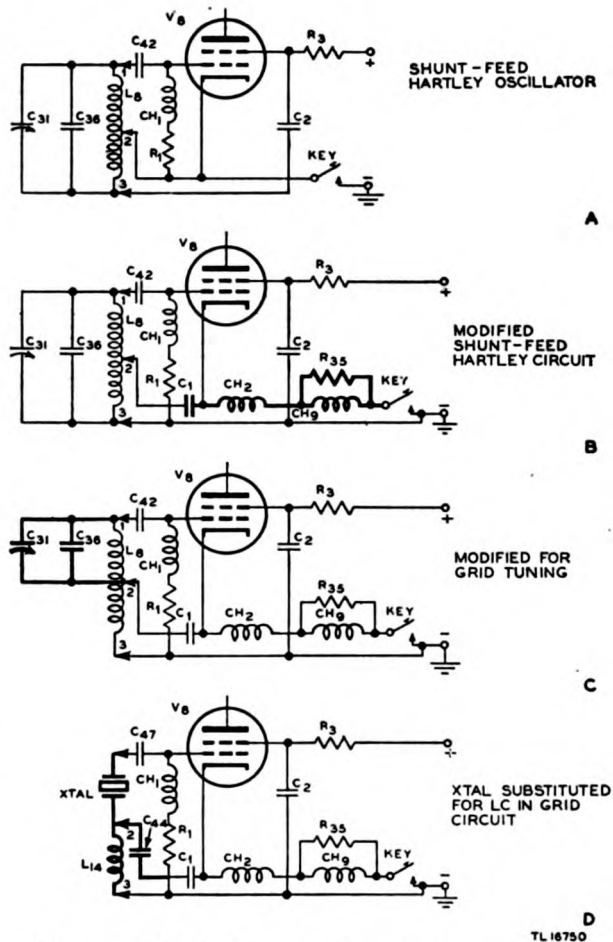

Figure 54. Equivalent circuits of master oscillator.
a. HARTLEY OSCILLATOR. For purposes of comparison, each part in the Hartley circuit (fig. 54(A)) is given the part number of the corresponding part used in Radio Transmitter BC-610-E. The functioning of the parts in the shunt-feed Hartley oscillator (fig. 54(A)) is as follows:
(1) The screen grid of tube V_8 (Tube JAN-6V6 (VT-107)) acts as the anode (plate) of a triode oscillator for which the control grid and cathode form the other two triode elements.
(2) Inductor L_8 is connected so that the turns between 1 and 2 are between the grid and cathode,
(8) Before the key is closed, the bias is zero. When the key is closed, d-c supply voltage is applied between the oscillator anode and cathode. This change of plate voltage causes a flow of energy from the anode through capacitor C_2 and the plate section (2-3) of coil L_8 to the cathode. This current in the plate section of L_8 induces a voltage across both the plate and the grid section (1-2) of L_8 . The voltage induced across L_8 charges capacitor C_{31} and C_{36} , and the resonant circuit starts oscillating. The oscillating current in L_8 causes an r-f voltage across both sections of the coil. The voltage across the grid section (1-2) is coupled through the grid capacitor to the grid, and this voltage is the grid excitation voltage. The excitation voltage is an r-f voltage at the resonant frequency of L_8 , C_{31} , and C_{32} . As the excitation voltage varies the grid to cathode voltage, corresponding variations of anode voltage occur and additional energy is fed back through C_2 to the plate section of L_8 in the resonant circuit. The energy thus fed back is sufficient to make up for the losses in the resonant circuit, so that its oscillations continue. As the grid excitation voltage swings the grid positive, capacitor C_{42} charges to a voltage nearly equal to the positive peak of the excitation voltage. The voltage of C_{42} acts as a bias voltage. Grid leak R_1 prevents C_{42} from discharging rapidly when the excitation voltage is lower than the grid capacitor voltage. In other words, the grid capacitor and the grid leak work together to develop the bias voltage for the oscillator stage.
b. MODIFIED HARTLEY CIRCUIT IN MASTER OSCILLATOR. The modified Hartley circuit of Tuning Unit TU-47 (fig. 54(B)) operates the same as the ordinary Hartley circuit, except for the following circuit changes:
(1) Chokes CH_2 and CH_9 are inserted between the cathode of V_8 and the key.
(2) R_{35} is across CH_9 and acts as a parasitic suppressor.
(3) Capacitor C_1 is between the cathode of V_8 and point 2, the junction of the plate and grid sections of L_8 .
(4) When the key is closed, the cathode is connected through the low d-c resistance of choke coils CH_2 and CH_9 to ground. The oscillator action is then the same as explained in *a* above, except that the high r-f impedance of choke coils CH_2 and CH_9 forces the r-f variations at the oscillator anode to feed back through the lower r-f impedance of the cathode section (2-3) of L_8 . Capacitor C_1 is included to keep the d-c current from flowing through the cathode section of L_8 , but C_1 effectively connects the cathode to point 2 at radio frequencies.
a. CRYSTAL CONTROL WITH TUNING UNIT TU-47. The modified Hartley circuit of figure 54(B) could be further modified as shown in figure 54(C). Under this condition, the cathode section (2-3) of L_8 would not form a part of the resonant LC circuit. The frequency of oscillation would now be determined by the resonant circuit composed of the grid section (1-2) of L_8 and capacitors C_{36} and C_{31} . The resonant circuit (L_8 , C_{36} , and C_{31}) is the equivalent circuit of a crystal at its resonant frequency. When the M.O.-XTAL switch of Tuning Unit TU-47 is placed in the XTAL position, the m-o circuit of figure 54(D) is in use. Examination of this circuit shows that—
(1) The crystal has been substituted for its equivalent circuit.
(2) Capacitor C_{44} has been placed in series with capacitor C_1 .
(3) Inductor L_{14} has been substituted for L_8 .
(4) The circuit functions the same as explained
in *a* and *b* above, except that L_{14} and C_{44} form a series resonant circuit between the cathode of V_8 and ground. The value of L_{14} and C_{44} are so chosen that their resonant frequency is somewhat lower than that of the lowest frequency crystal to be used in the circuit. This choice of values assures proper operation of the circuit without tuning to each of the available crystal frequencies, since the circuit will act as an inductive cathode load over the entire frequency range of which Tuning Unit TU-47 is designed. As in the modified circuit of figure 54(B), the r-f variations at the oscillator anode are fed back through inductor L_{14} , because of the high r-f impedance choke coils CH_2 and CH_9 . The voltage thus developed across L_{14} exerts an electrical strain on the crystal so that it vibrates mechanically and develops the grid excitation voltage.